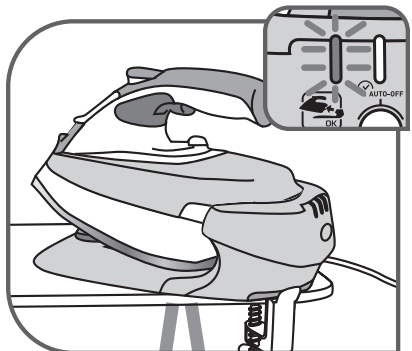
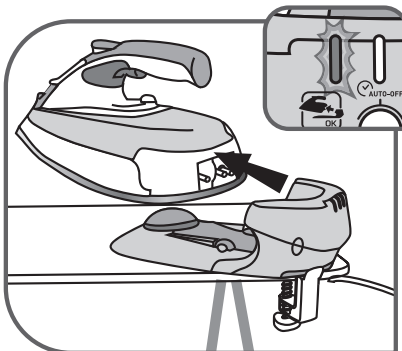

Fig.8
Fig.9
- The flashing green light – **fig.8** located on the display panel on the back of the base indicates that the iron is heating up. When the light stops flashing – **fig.9**, the iron is ready to use.
- Fixed green light: iron is ready – **fig.9**.